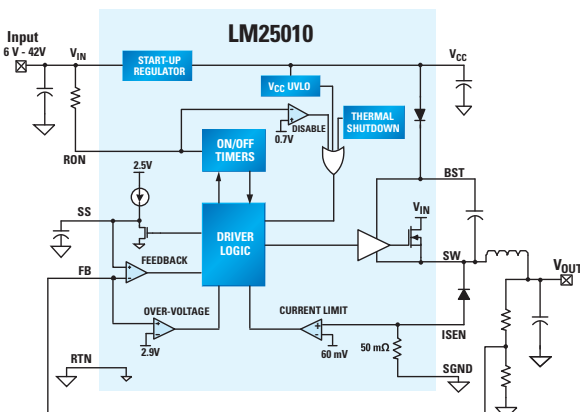

Figure 4. LM25010 COT Buck Regulator
The block diagram in Figure 4 illustrates the LM25010, a new member of a generation of COT buck regulators that solves these problems. The one-shot which controls the on-time is programmed by resistor R_{ON} which is connected between the unregulated input voltage and the controller. The period of the one-shot (T_{ON}) thus varies inversely with the input voltage. Using the simplified equation for the duty cycle (D) of a buck regulator, with F_s representing switching frequency:
The LM25010 illustrated in *Figure 4* solves the current limit dilemma with a simple yet effective method. The free-wheeling diode current is routed through a sense resistor in the IC. The current in the diode is sensed by a resistor and monitored by a comparator. If the current flowing through the free-wheeling diode exceeds the current-limit threshold, the current-limit comparator will disable the buck switch until the diode current falls to an acceptable level. The off-time is automatically increased to the